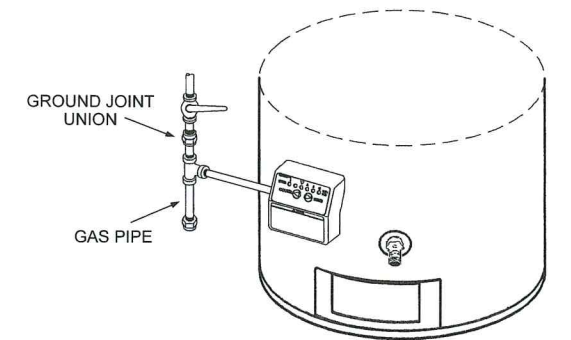

FIGURE 10.
14. Connect gas piping to the Intelli-vent™ Thermostat Control, (184960 Series) and only to the type of gas (i.e. Natural or Liquefied Petroleum/ LP gases, Propane gas) as shown on the rating plate. Use only clean 1/2 inch black iron pipe. (Dirt and scale from the pipe can enter the control and cause it to malfunction). The inlet gas line must have a drip leg (sediment trap) installed as close as possible to Intelli-vent™ Thermostat Control, (184960 Series) having a minimum length of three (3) inches (7.6 cm). A ground joint union must be installed in the gas supply line feeding the water heater to permit servicing, of the water heater, see Figure 10. Joints shall be made using approved gas pipe joint compound on the male pipe thread ends. Pipe joint compound must be resistant to the action of Liquefied Petroleum/ LP gases, Propane gas. Do not use Teflon Tape.